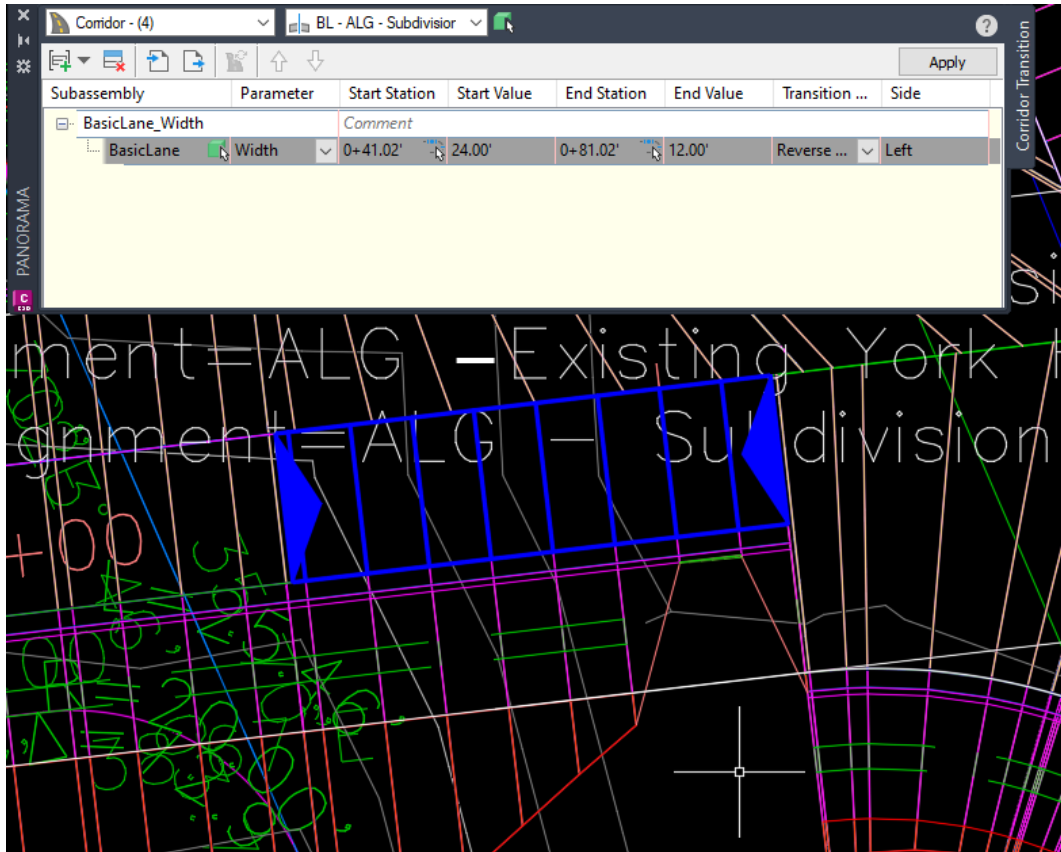

Figure 3.17 – Transition applied in model space to our intersection model
9. Finally, we'll be prompted to enter the transition type, at which point we'll select **Reverse Parabolic** and then hit the *Enter* key again to give us a smooth curved transition from a single lane to two lanes as we exit our subdivision. We should have an updated Intersection view in model space that looks similar to that shown in *Figure 3.17*.